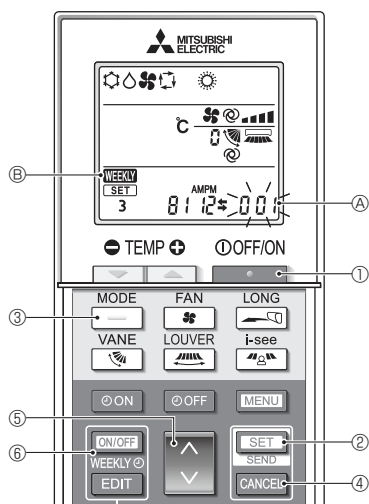

Fig. 5-1
Switching to the function setting mode (Fig. 5-1)
* If the setting is incorrect, press the button ② and repeat the procedure from step 1.
5.3. Completing the settings (Fig. 5-1)
- Press the button ② for 5 seconds.